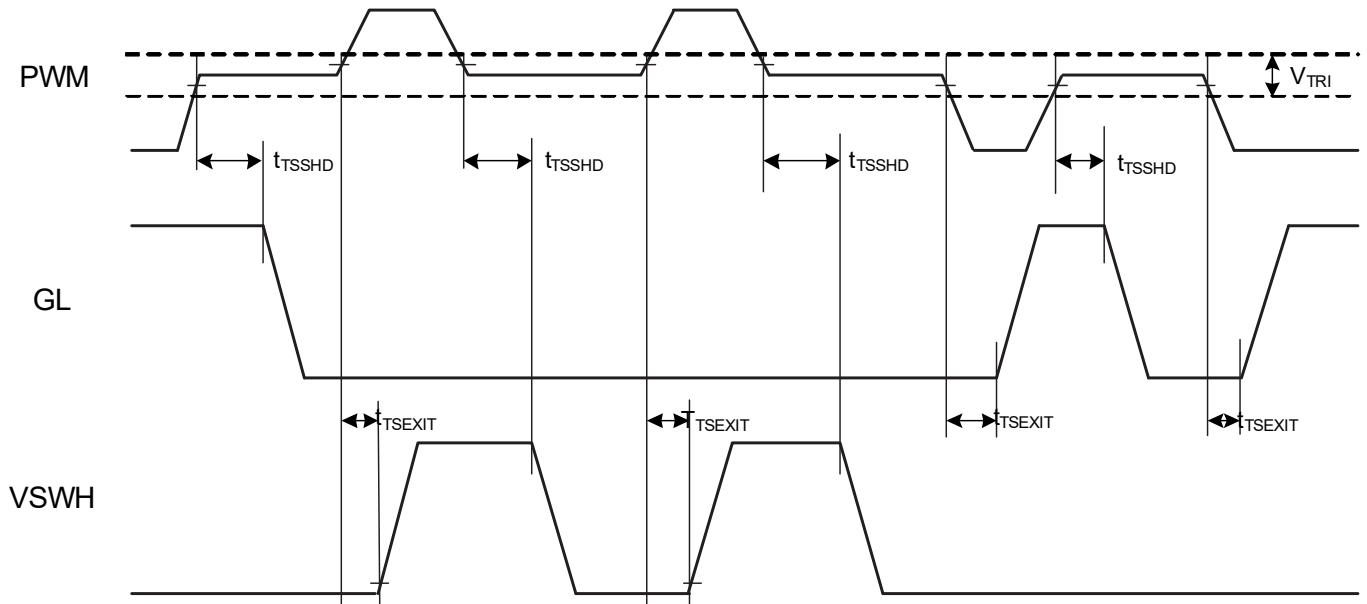

Figure 2. PWM Tri-State Hold Off and Exit Timing Diagram
**Note:** See Figure 2 for propagation delays and Tri-State window.